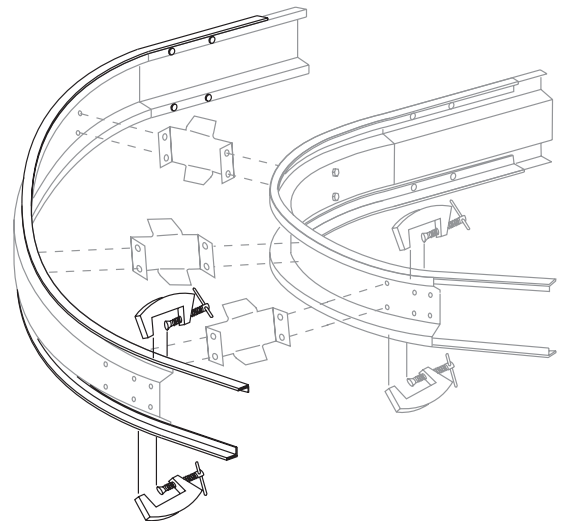

Figure 9
5. When the wearstrip is completely bottomed out against the side frame, use a clamping device to hold it in position. Refer to *Figure 9*.